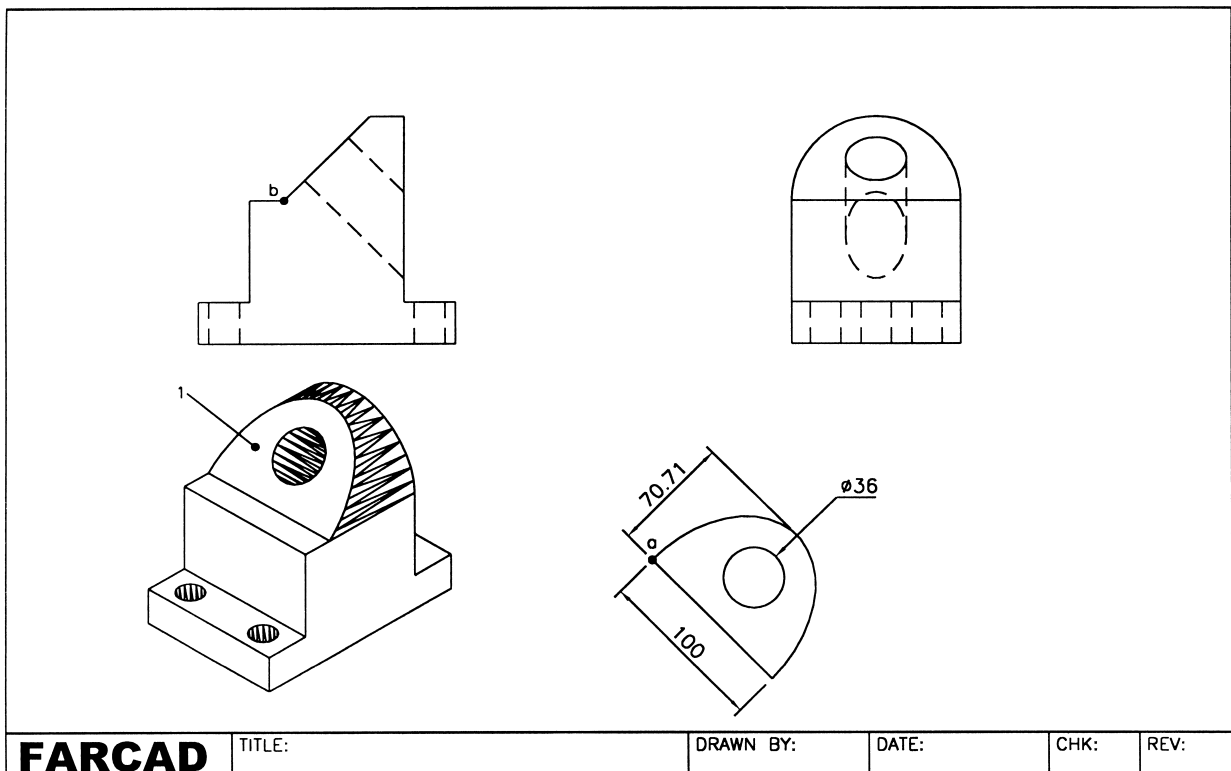

Figure 39.3 True shape extraction using composite model 1.
- 1 Open the machine support model from chapter 31 and refer to Fig. 39.3.
- b) freeze the layer VP to give the layout as Fig. 39.3